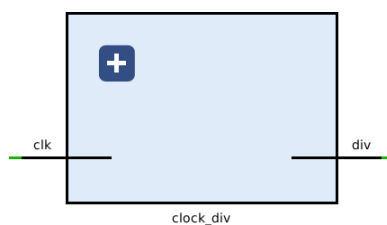

Figure 1.2: `clk_div` block diagram
- Create a design called “`clock_div`” in VHDL that takes as input a 125 MHz clock signal and divides it down to generate an enable signal every 2 Hz. Utilize a looping testbench to drive 125 million clock cycles on the input of the module and verify that the testbench output shows two full clock cycles. See top level block diagram in Figure 1.2. Modify the Zybo_Master.xdc file to un-comment